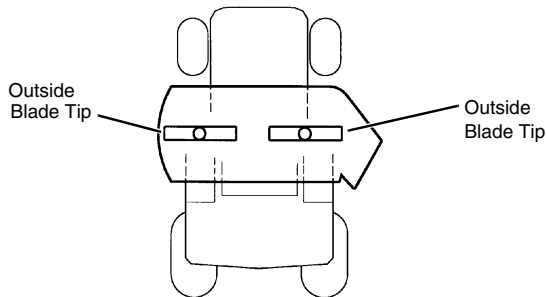

FIG. 30
- Measure height from level surface to outside blade tip on left and right blades. (See FIG. 30) Difference between measurements should not exceed **6 mm (1/4 in.)**.